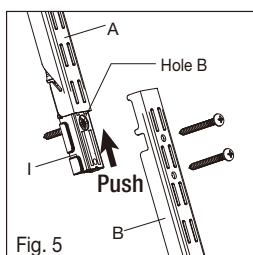

Fig. 5
- ☐ Push vertical rail joiner (I) up into upper vertical rail (A) as shown, secure the vertical rail joiner (I) on hole B with panhead screw (#12 x 2 in.) (see Fig. 5).